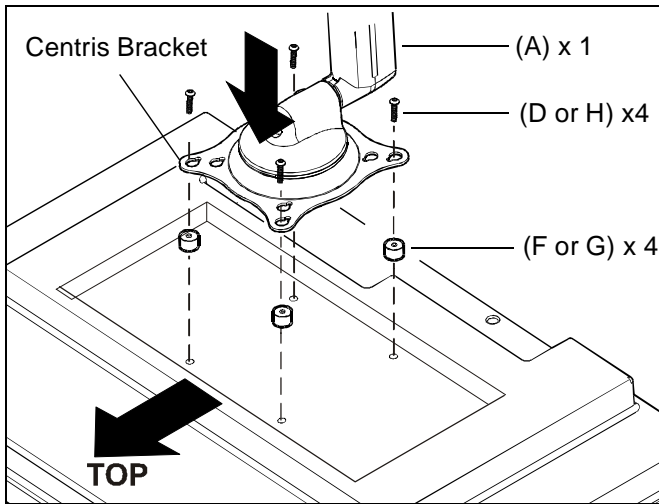

Figure 8
3. Determine depth of recessed mounting holes relative to back surface of display (against which Centris head will contact). (See Figure 8)
4. Select proper length spacer and screw. (See Figure 8)
5. Place the four selected spacers over each of the mount holes on the back of the display. (See Figure 8)
6. Pick up and orient the mount (A) so that the mounting holes in the Centris bracket are aligned with the holes in the spacers; rotate the bracket as required.
7. Using Phillips screwdriver, install four screws (D or H) through the mounting holes in Centris bracket, through the spacers (F or G), and into the display. (See Figure 8)